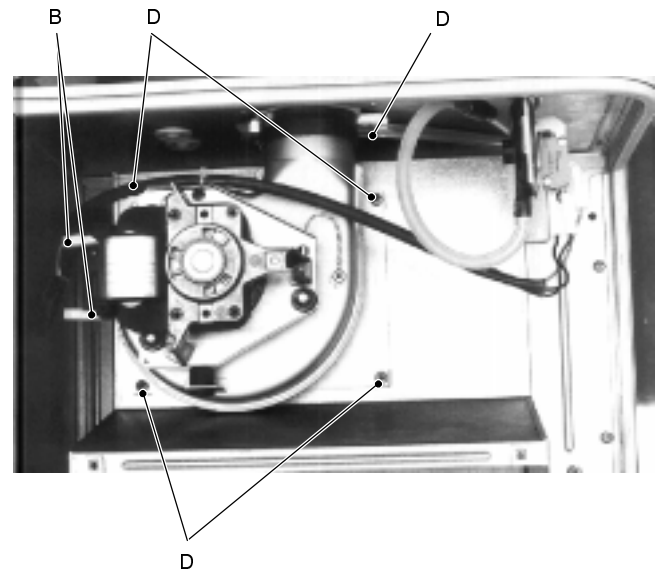

fig. 78
Disconnect the connectors B (fig. 78) and measure the electrical resistance of the motor.
- 2 Disconnect the connectors *B* (fig. 78);